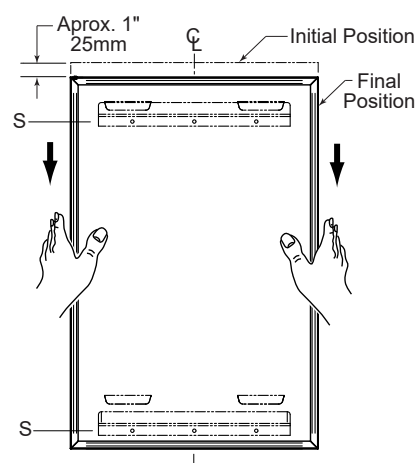

Figure: 4
**"2S" Tab Design** — Secure mirror to concealed wall hanger by pressing mirror against double sided tape of lower hanger once it is lowered into final position (see figure 4).